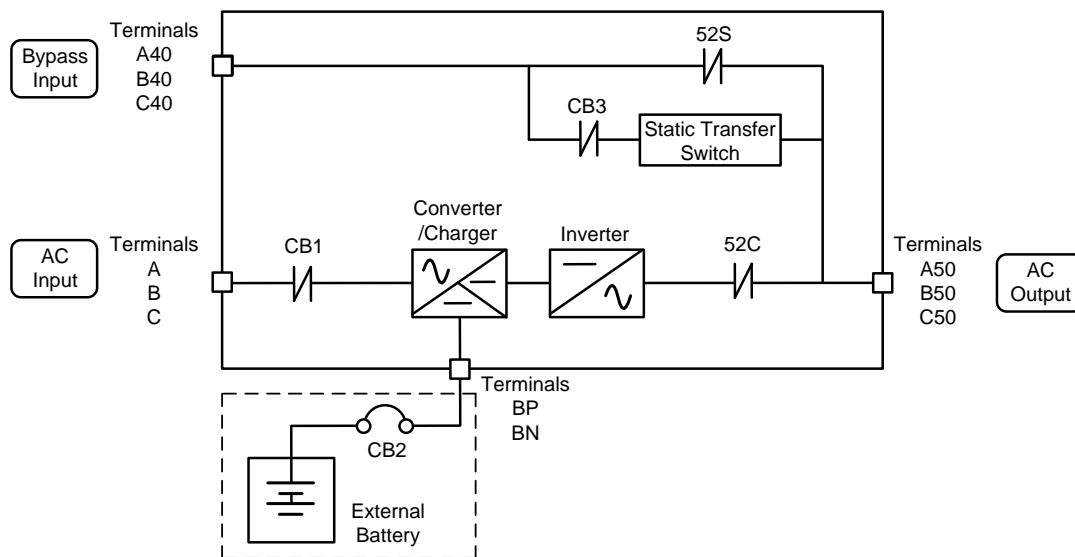
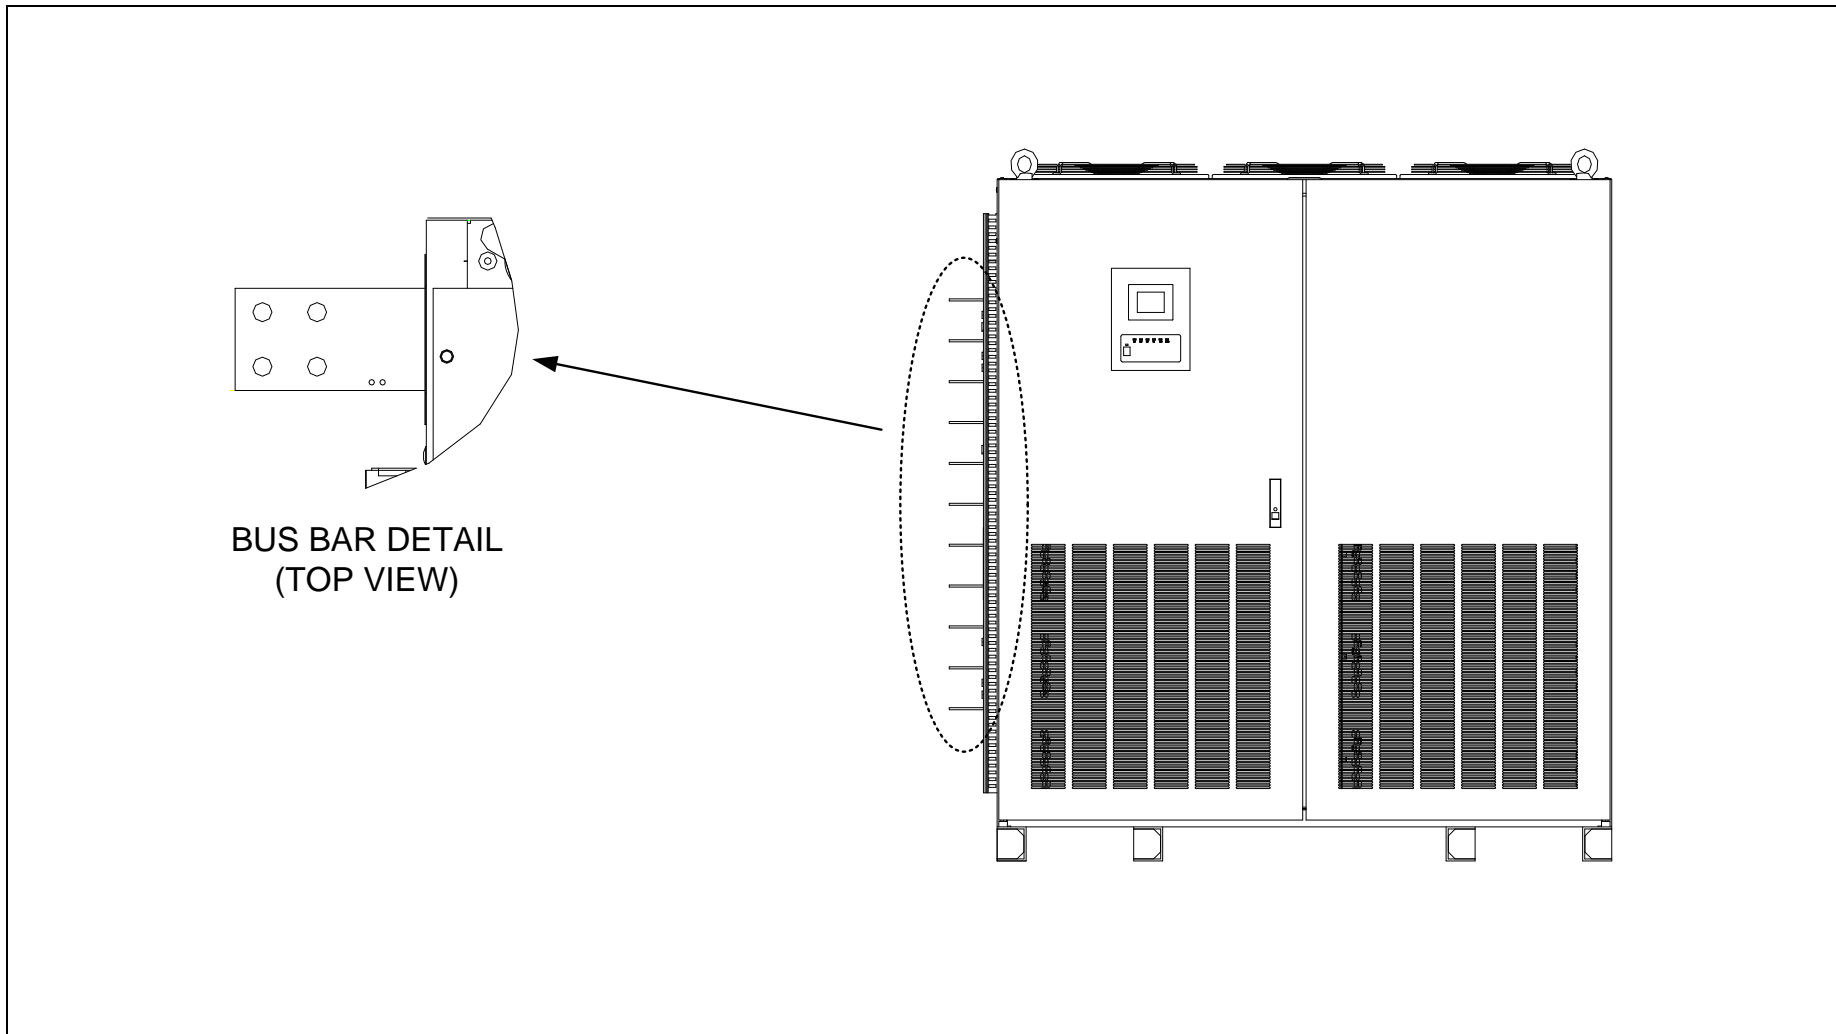

Figure 5-1 UPS Terminal Designation
Figure 5-7 Detail of the main cabinet bus bars (650kVA & 750kVA)
- g.) Confirm the capacity of the UPS being installed. Identify the input/output power Terminal blocks accordingly as shown in the Figure 5-1 thru Figure 5-10.
- (1) Control wire Inter-connect
- i.) Connect the grounding conductor from the input service entrance to the UPS Ground Bar (E).
- j.) Two (2) sources feeding the UPS:
- (1) Connect the AC input power cables from the input service entrance to the AC input power terminals, identified as A, B, C in Figure 5-1 thru Figure 5-7. Input cables must be sized for an ampere rating larger than the maximum input drawn by the converter. (Refer to equipment nameplate for current ratings.) Confirm that an external bypass input circuit breaker (MCCB) is installed (refer to WARNING 4, page 5). Connect the bypass input power cables from the input service entrance to the bypass input power terminals, identified as A40, B40 and C40 in Figure 5-1 thru Figure 5-7. Bypass input cables must be sized for an ampere rating larger than the maximum output current capacity of the UPS. Refer to Table 5-4 for recommended cable sizes.
- k.) One (1) source feeding the UPS:
- (1) Confirm that an external input circuit breaker sized to protect both the AC input and the bypass line is installed. (Refer to equipment nameplate for current ratings.) Connect the bypass input power cables from the input service entrance to the bypass input power terminals, identified as A40, B40 and C40 in Figure 5-1 thru Figure 5-7. Input cables must be sized for an ampere rating larger than the maximum current capacity of the UPS. Refer to Table 5-4 for recommended cable sizes.
- (2) Using adequately sized conductors and referring to the appropriate figure identified in Figure 5-1 thru Figure 5-7, connect jumper bypass terminals A40, B40, C40 to AC input power terminals A, B, C as identified in Figure 5-1 thru Figure 5-7.
- (3) Connect the external signal terminal block as desired. Refer to Table 4–1 for functional description. 14 AWG (2mm²), or less, shielded conductor is recommended.
- (1) Confirm the number of units to be connected in parallel. Identify the input/output power terminal blocks and control wire connections for parallel operation systems as shown in the appropriate Figure 5-1 thru Figure 5-7.
- (2) Connect the external control wire and power wire.
From UPS AC Output Terminals to Toshiba Tie Cabinet (TTC) (Refer to Figure 5-1 thru Figure 5-7)